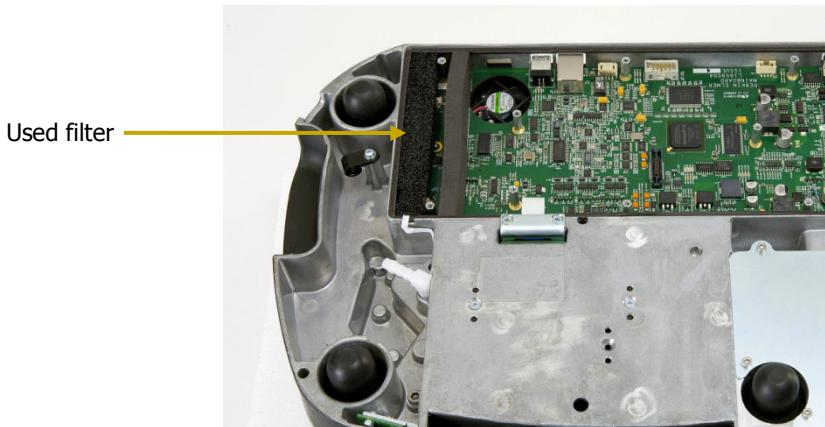

Figure 93 Location of the filter
6. Locate the used filter (Figure 93).